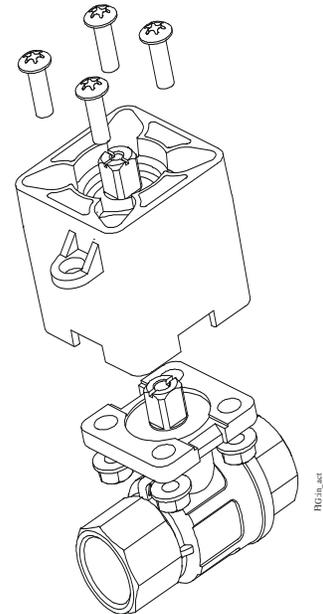

Figure 9: Installing the Barrier
3. Mount the thermal barrier onto the valve using the four included M5x16 mm machine screws and four M5 flange nuts. Tighten the screws to a recommended torque of 21 to 25 lb-in. (2.4 to 2.8 N·m) (Figure 9).